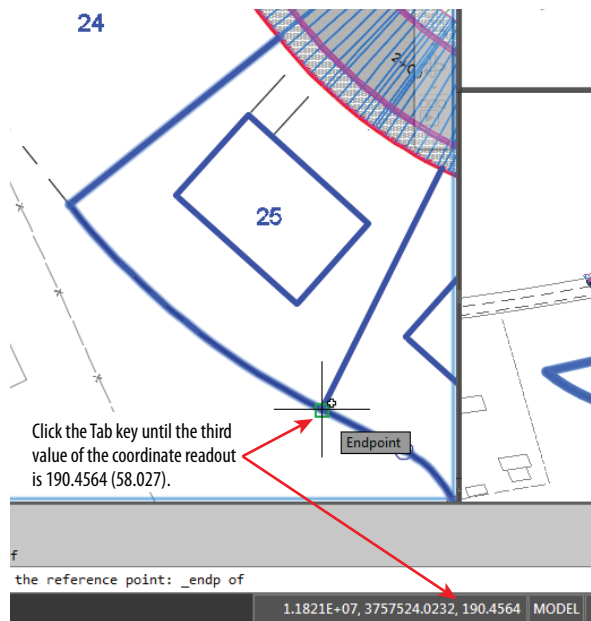

FIGURE 17.6 Using the Tab key and coordinate readout to select the correct elevation
8. Look at the coordinate readout at the bottom center of your screen. If the third value in the coordinate readout is 0.0000, press the Tab key. Keep pressing the Tab key until the value reads 190.4564 (58.027), as shown in Figure 17.6.